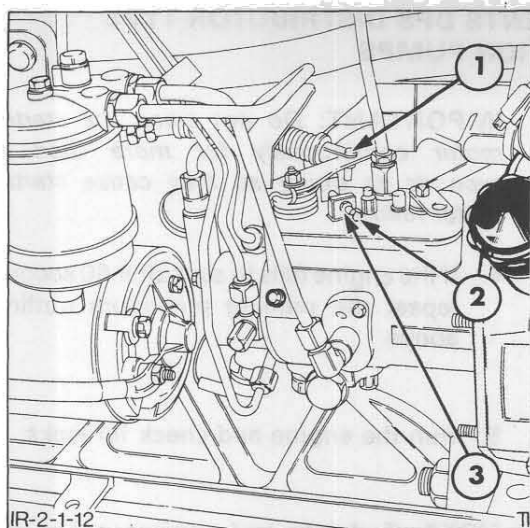

Figure 12
1. With the engine running and at normal operating temperature, disconnect the throttle linkage at the injection pump, Figure 12.
1. With the engine running and at normal operating temperature, disconnect the throttle linkage at the fuel injection pump, Figure 12.